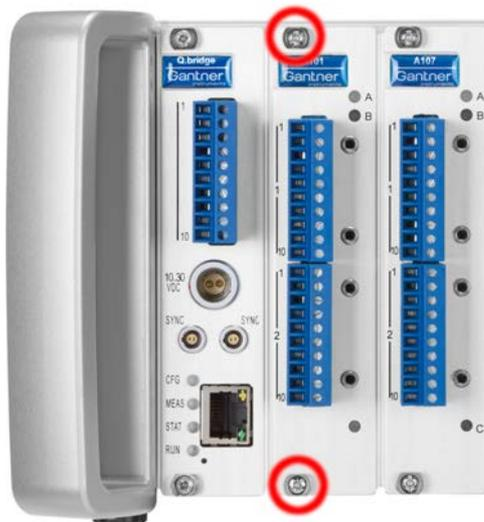

Fig. 4-92 To remove a module release the screws in the blue circles on the rear panel.
2. Release the screws of the module at the front of the Q.brixx system (refer to red marking in Fig. 4-92) with a cross-tip screwdriver.